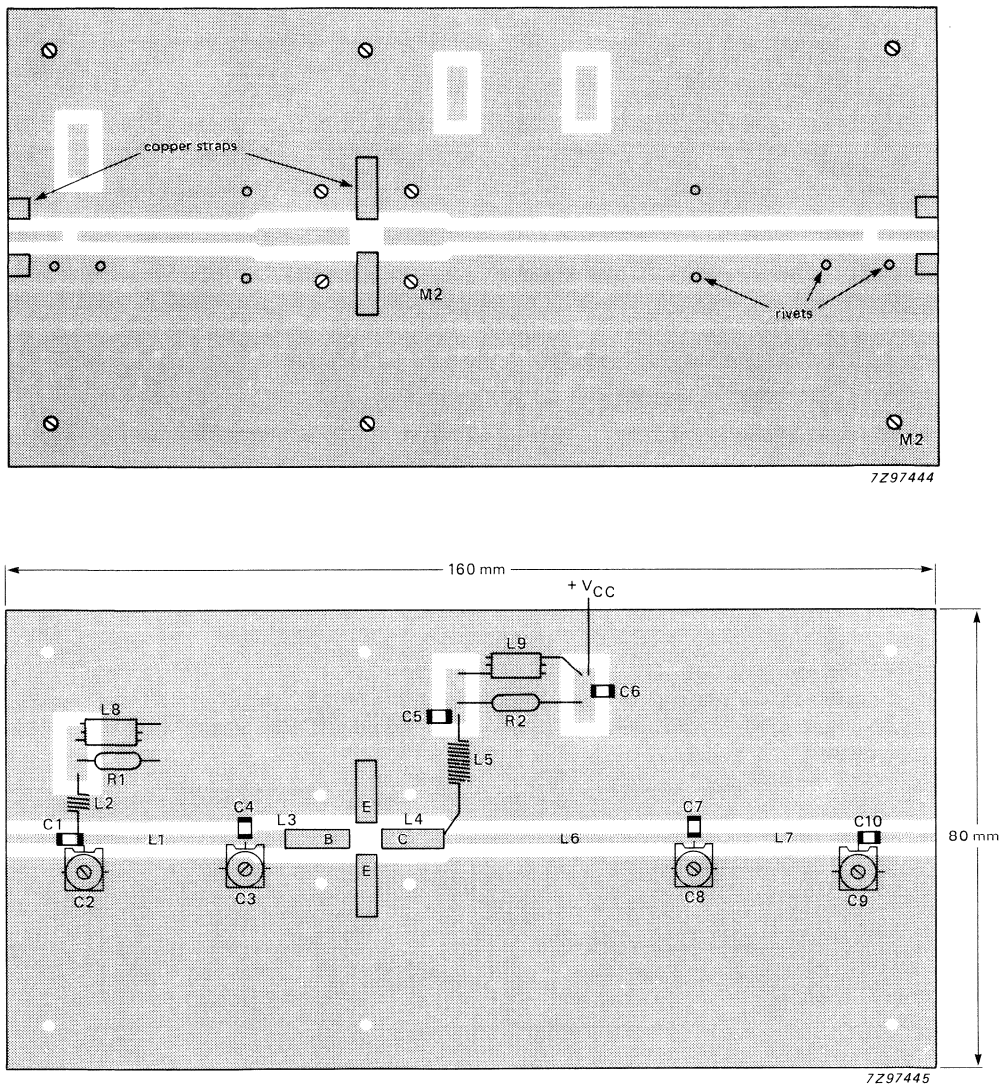

Fig. 6 Printed-circuit board and component lay-out for 900 MHz class-B test circuit.
** Device mounted on a printed-circuit board (see Fig. 6).
The device is capable to withstand a full load mismatch ($VSWR = 50$; all phases) at rated load power up to a supply voltage of 15.5 V at $T_a = 25 \text{ }^\circ\text{C}$. Device mounted on a printed circuit board (see Fig. 6).